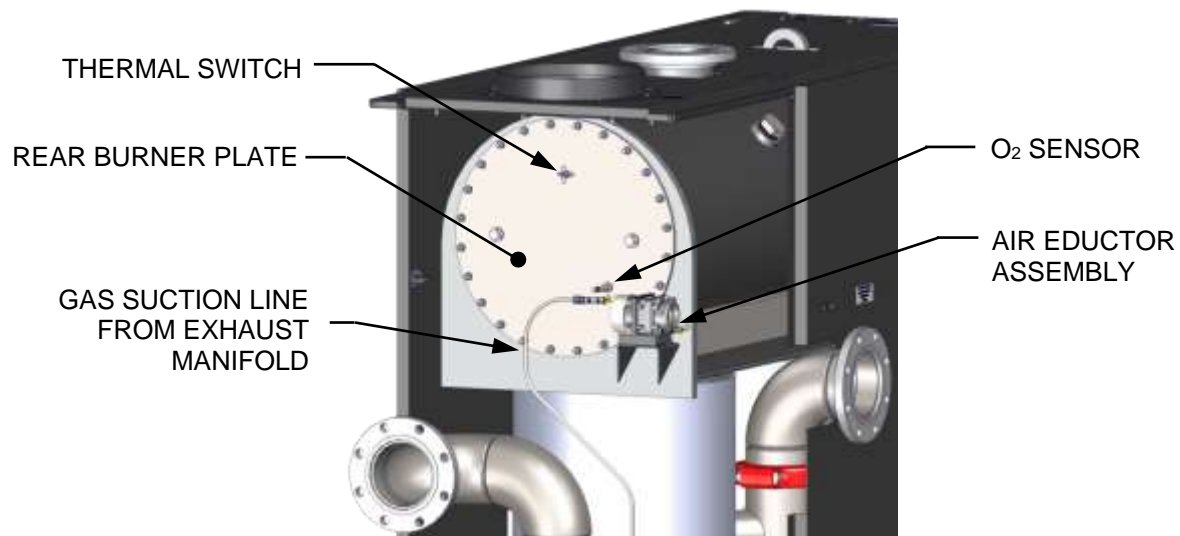

Figure 4-8: Partial Rear View Showing Rear Burner Plate
5. With the panels removed, the rear plate of the combustion chamber can be accessed as shown in Figure 4-8, below.
12. Refer to Figure 4-8 and note the position of the rear refractory. Prior to refractory removal, mark as necessary using a permanent marker or tape.